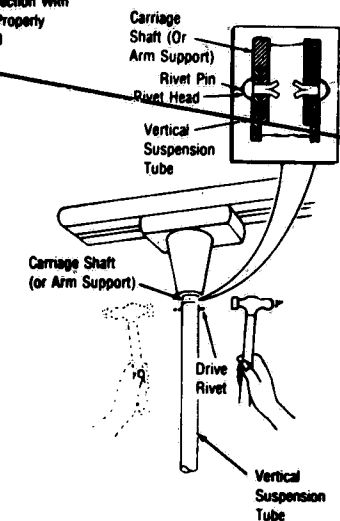

Figure 4-4. DRIVING RIVETS.
4. Insert a round-head drive rivet (29/32 long) into each hole drilled through the carriage shaft and the vertical suspension tube. Using a hammer, tap the protruding rivet pins (Fig. 4-4) until they are flush with the rivet heads as shown in cross-sectional insert on Figure 4-4.